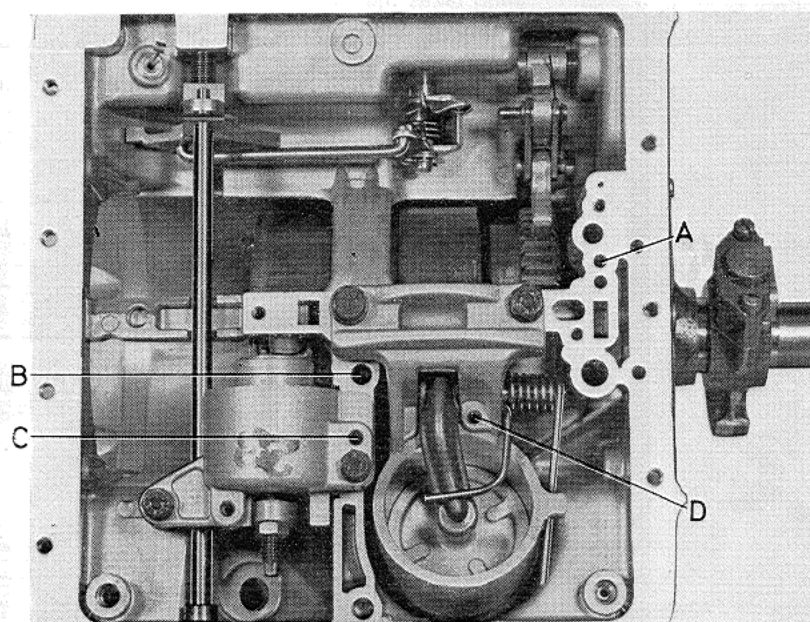

Fig. 34. Functioning test with compressed air
Apply air pressure to the passage (5) of the transmission case rear wall, see Fig. 34. Listen for a thump, indicating that the clutch is functioning. On the bench, also verify by rotating the input shaft with air pressure applied.